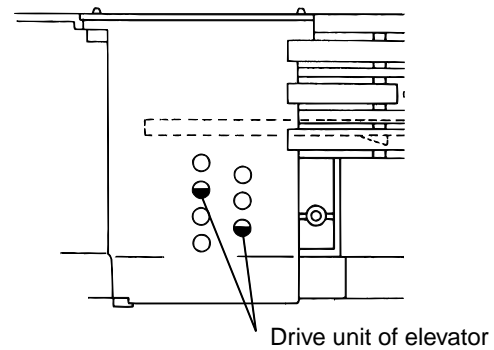
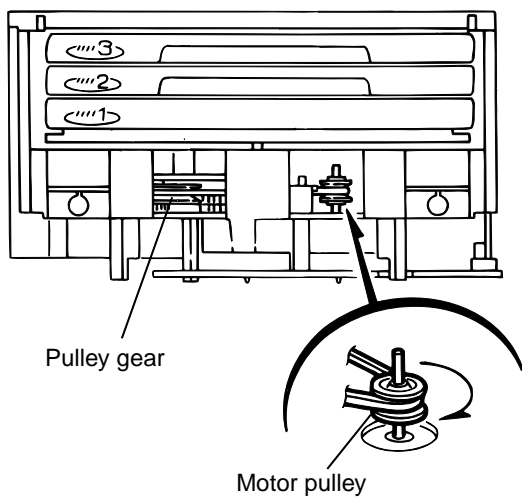

Fig.7
Fig.8
[Caution] In case the driver unit elevator is not at above position, set the elevator to the position as shown in Fig.7 by manually turning the pulley gear as shown in Fig.8.
13. Manually turn the motor pulley in the clockwise direction until the lifter unit stopper is lowered from the section "E" of DVD tray assembly (See Fig.8).